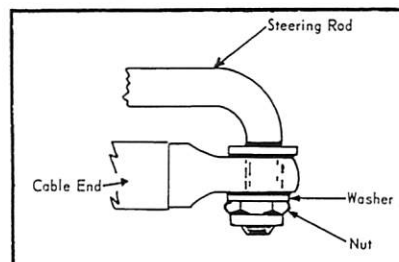

Figure 3.
3. Assemble cable on steering link rod, as shown in Figure 3.